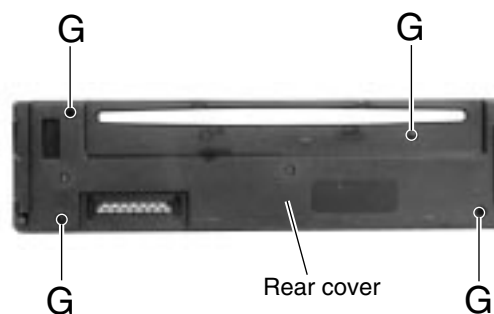

Fig.10
■ Removing the control switch board (See Fig.10 to 12)